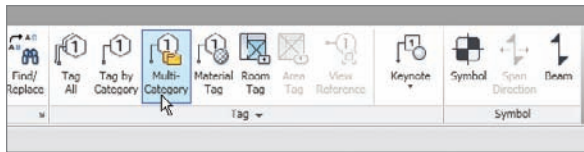

FIGURE 11.90 The Multi-Category button on the Tag panel
13. On the Annotate tab, click the Multi-Category button on the Tag panel, as shown in Figure 11.90.